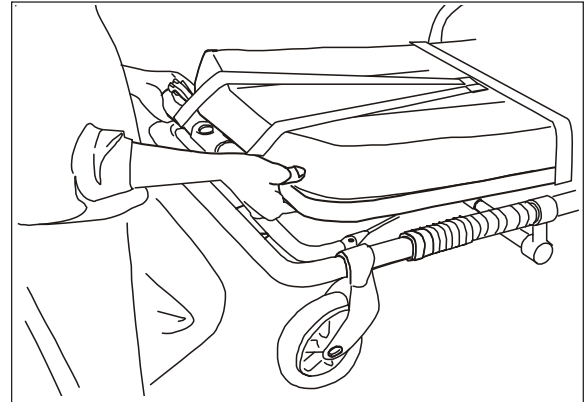

Figure 4 - Raising the Backrest from Level to the First Position
2. To adjust backrest from level position to first raised position, lift backrest (Figure 4). The backrest support will lock in first raised position.